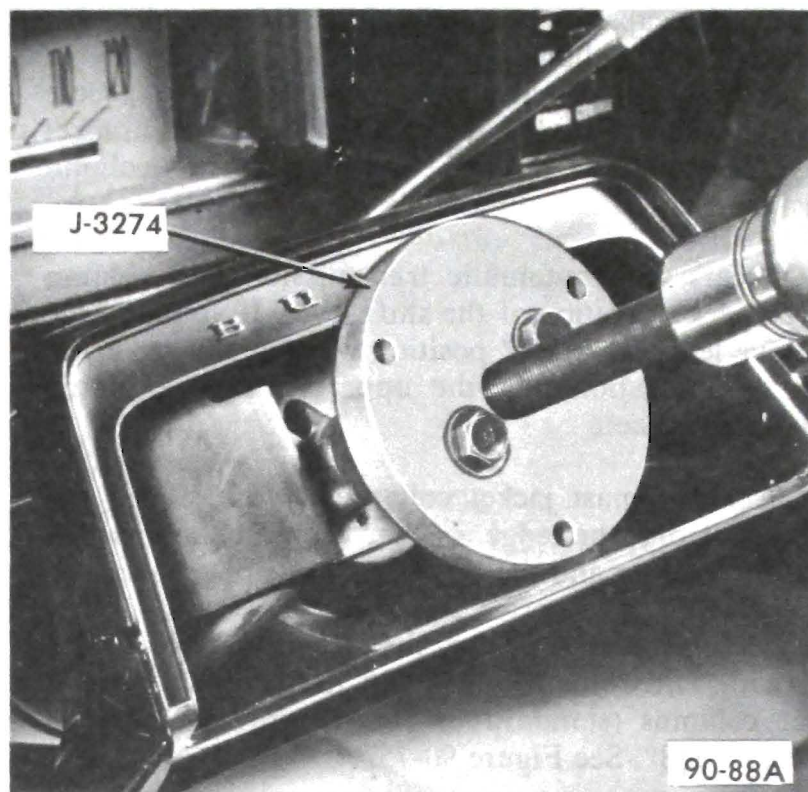

Figure 90-77 Removing Steering Wheel
3. Attach Wheel Puller J-3274 to steering wheel and pull wheel up to nut. See Figure 90-77. Do not tap or strike on end of puller in order to free wheel from shaft that maintain steering shaft rigidity. Striking of underside of steering wheel to jar it loose must also never be done. The only recommendation for freeing frozen steering wheels is to use a penetrating lubricant.